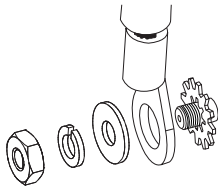

Fig. 8-13, Ground Wire Stack Up
6. Connect the power supply external ground connection to the rack ground stud Δ in **Fig. 8-11**. Follow the proper stack up (**Fig. 8-13**) to attach the supplied #10-32 nut, lock washer, flat washer, and supplied ground wire.